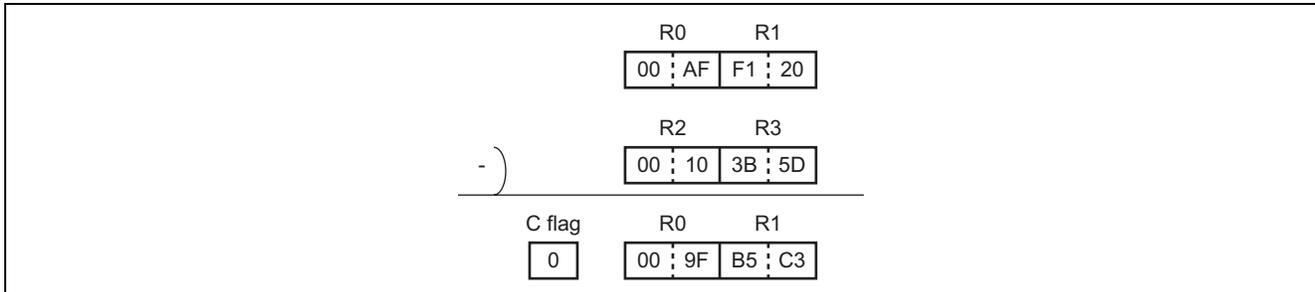

Figure 3 Example of Subtraction with Upper Bits Unused
1. When upper bits are not used (see figure 3), set them to 0; otherwise, a correct result cannot be obtained because subtraction is done on the numbers including indeterminate data.